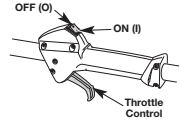

Fig. 3
- NOTE:** There is no need to turn the unit on. The On/Off Control is in the ON (I) position at all times (Fig. 3).
2. Press and hold the On/Off Control switch in the **OFF (O)** position until the unit comes to a complete stop (Fig. 3).